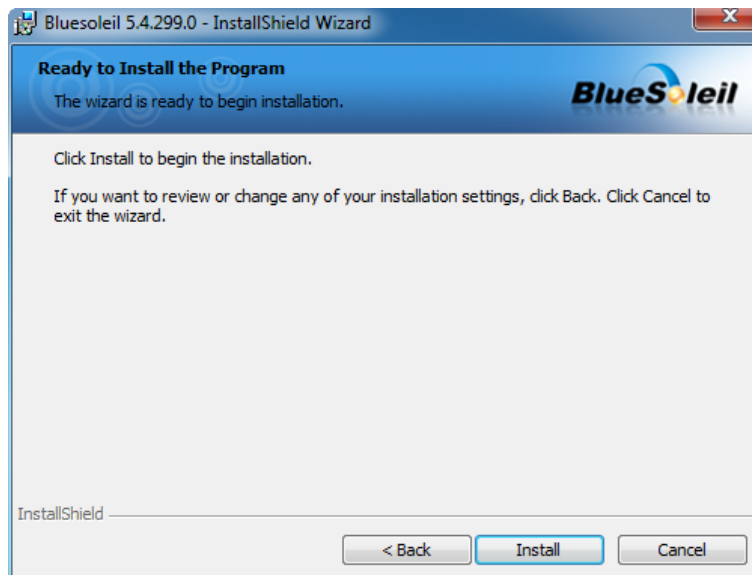

Figure 8-43: Ready to Install the Program
Step 10: Click **INSTALL** to continue (**Figure 8-43**).